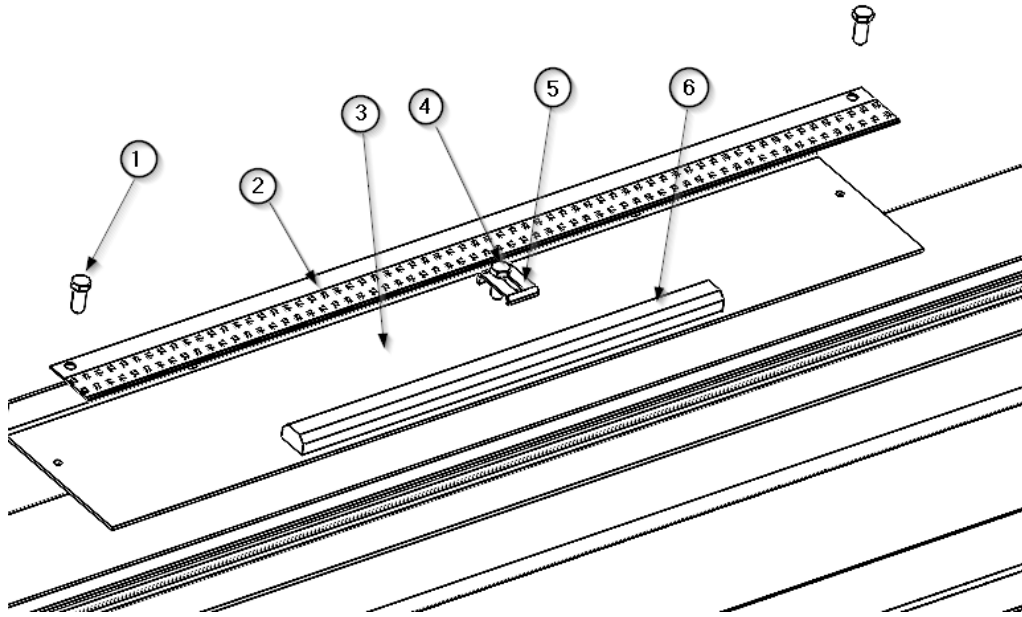

Fig.5 Substitution of indirect light
- Using a flat-nosed tool, remove the polycarbonate diffuser ①. Be careful not to damage the outer covers of the device. The LED strips ③, the controllers ⑦ and their terminal strip are visible.
- Disconnect the power supply of the controller ⑦ from the terminal strip.
- Unscrew the 2 M4 x 10 hex screws ② DIN 933 releasing the LED strip ③, its quick connector is visible. See figure 5.